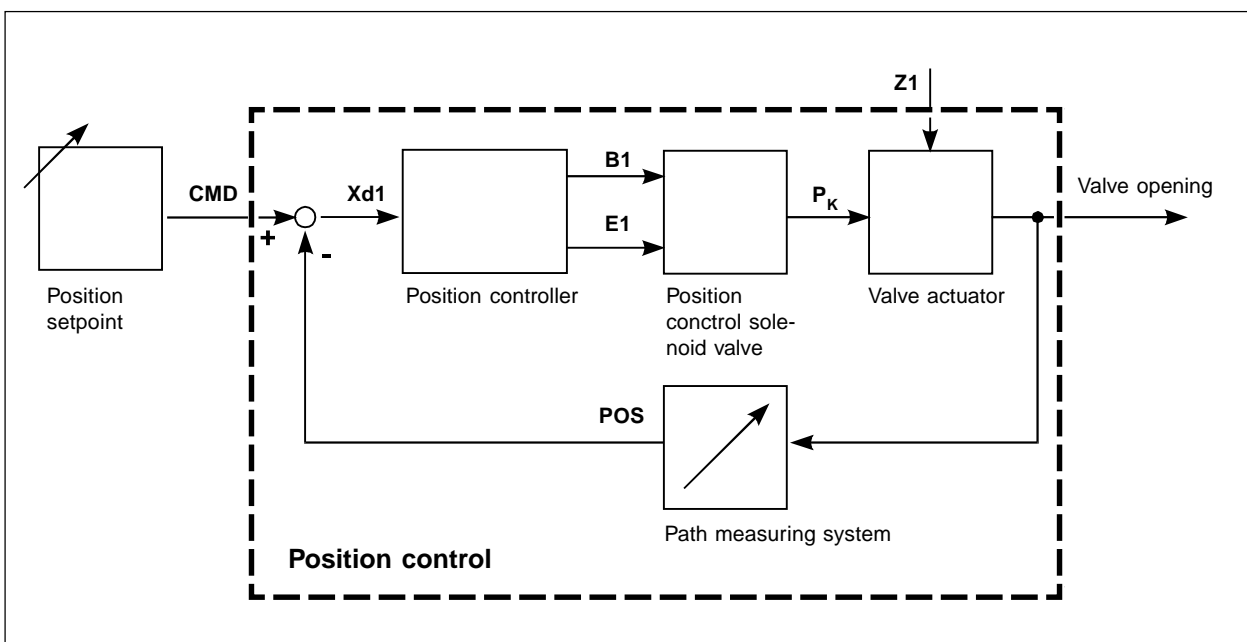

Fig 3.6: Position control diagram
3.2.1 Working of the TopControl Continuous as position controller (Fig. 3.6)